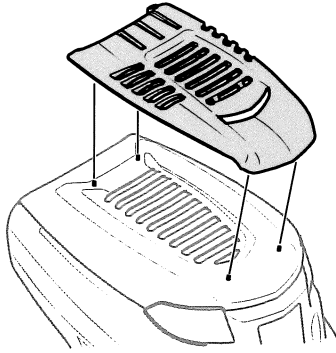

Figure 2-12
3. Snap the hood scoop into place using the hood as your guide. See Figure 2-12.